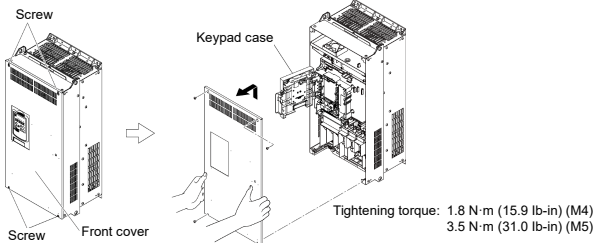

Figure 2-4 Removal of the front cover (for FRN0075G2S-4G)
(2) FRN0146G2S-2G / FRN0075G2□-4G or higher inverters
- After carrying out wiring work, align the top of the front cover with the hole on the cover, and reattach using the opposite procedure to that in Figure 2-4. Open the keypad case to expose the control PCB.